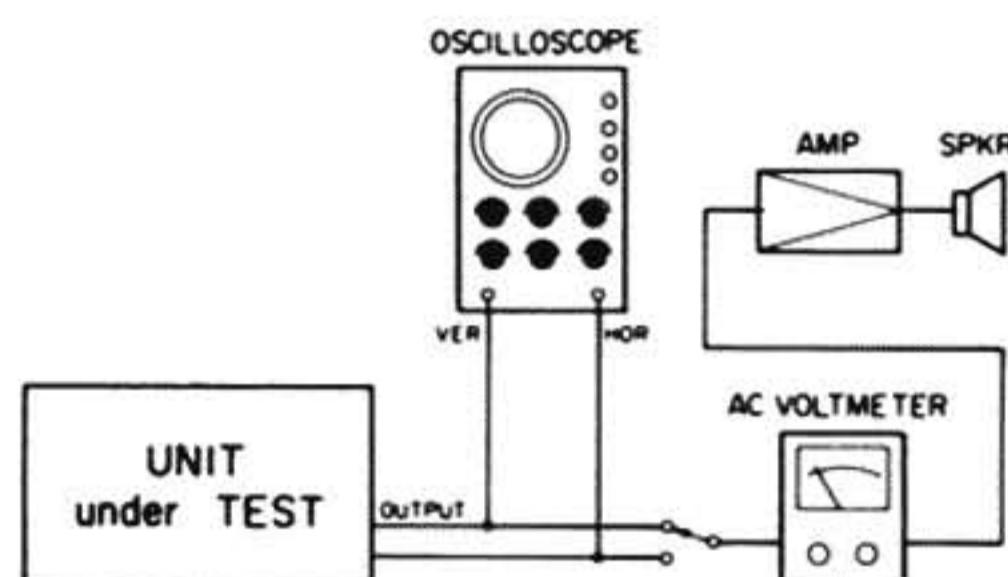

Figure 5-14. Head Alignment Test Connections
1. Connect an AC level meter to the OUTPUT connector of both channels as shown in Figure 5-14.
- As shown in Figure 5-14, connect the channel 1 output to the vertical input of the oscilloscope, and the channel 2 output to the horizontal input of the scope. Also connect an AC level meter to measure the channels' output levels.